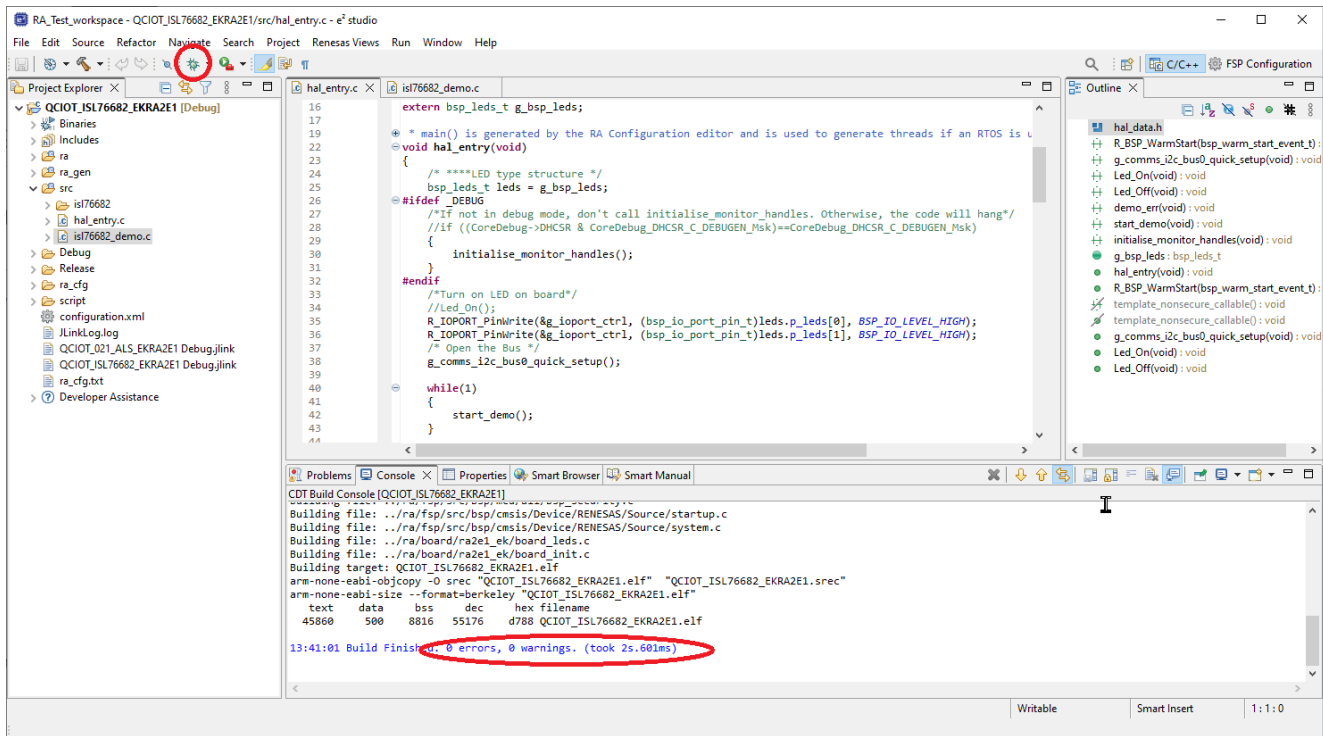

Figure 17. Flash and Debug the Sample Project
9. Debug the project by clicking on the *Bug* icon (see Figure 17).